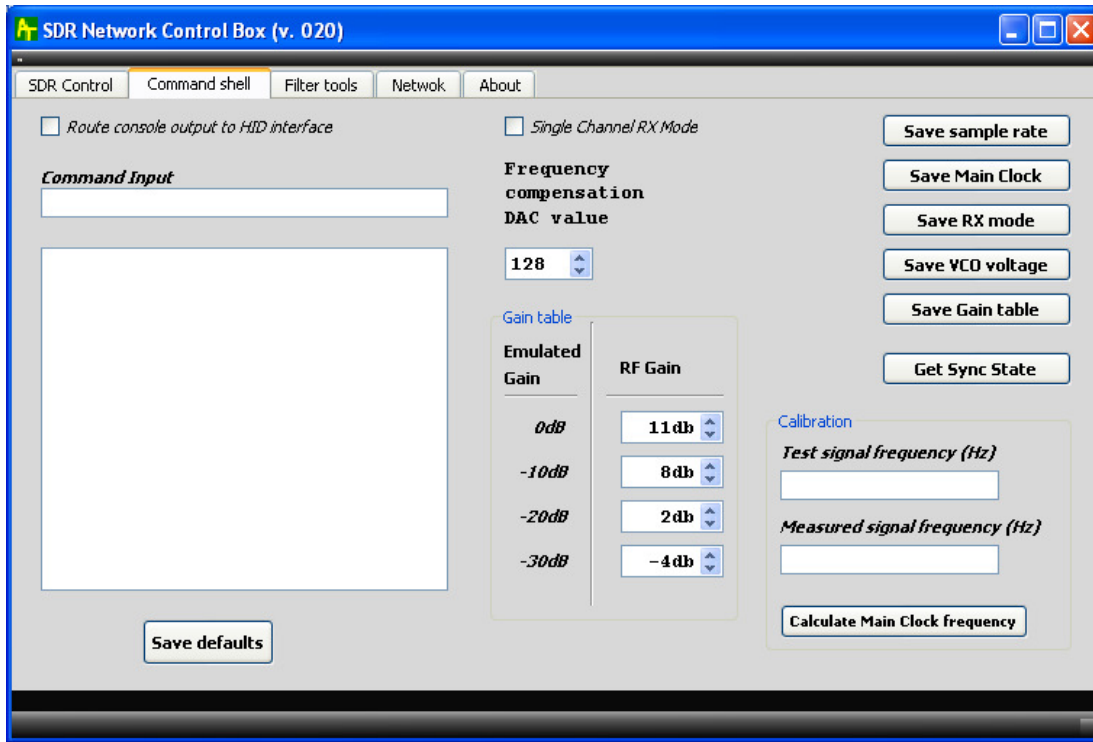

Figure 4 Command shell tab
Screenshot of “Command shell” tab is shown on Figure 4.
3.2.12. The Group Box “Calibration” – (see Figure 4 and 5), is used for calibration (calculation) precision value of the main clock oscillator. The calibration process is very simple.